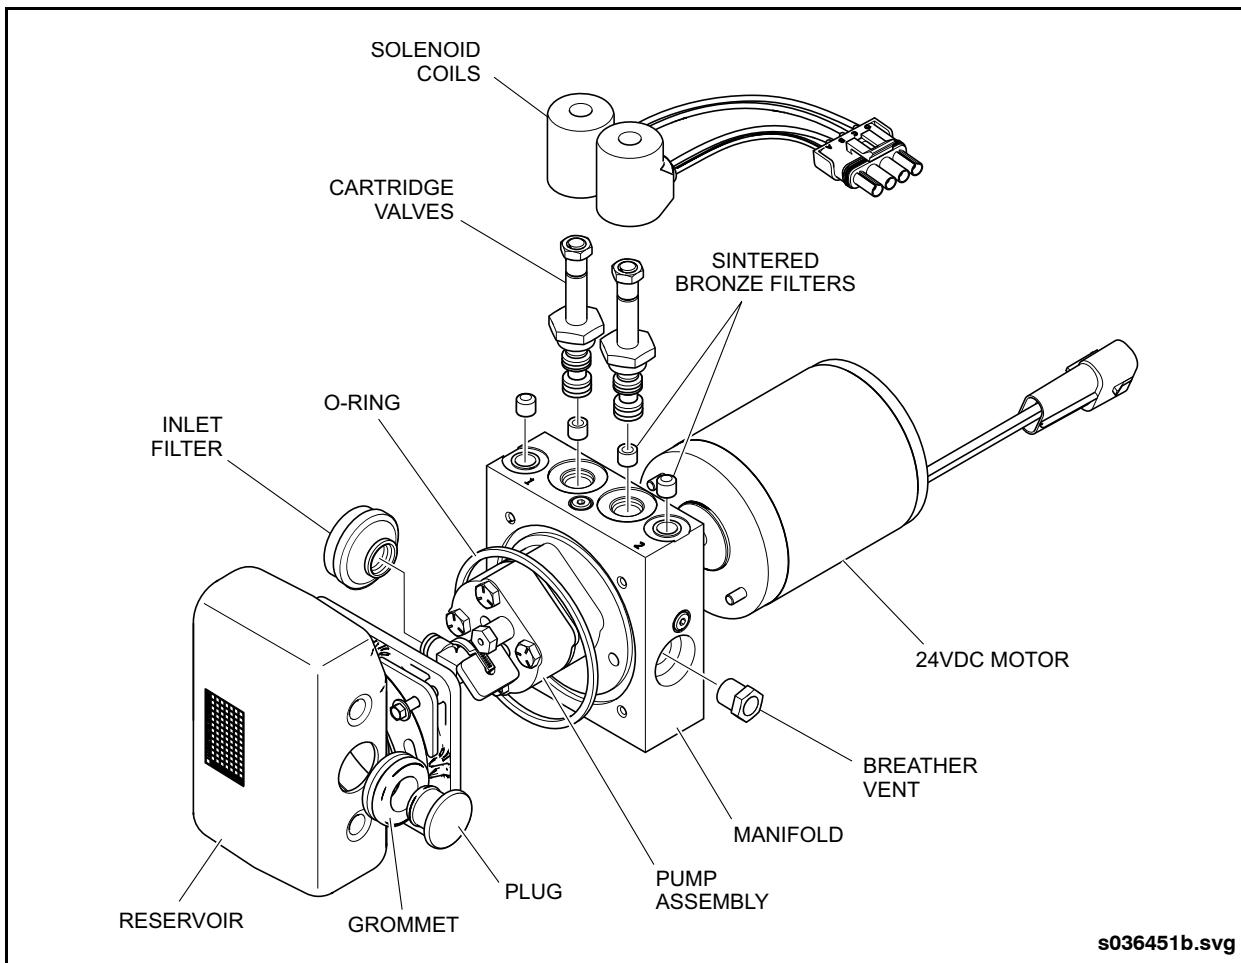

Fig. PM-46: Hydraulic Power Pack Assembly
5. Inspect filters and screens. Refer to 2.26.2.2. "Screen & Filter Inspection" on page 97 in this section for replacement procedure. See "Fig. PM-46: Hydraulic Power Pack Assembly" on page 97.